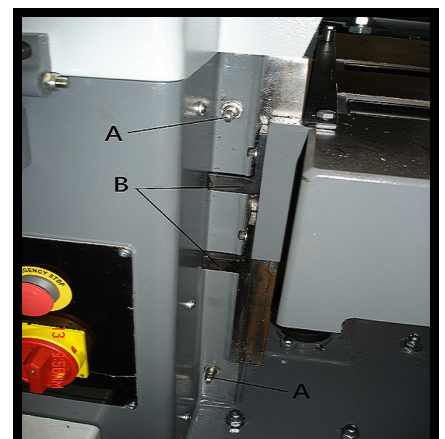

Fig. 7
Limitation for work table raising or lowering, there is a limit switch (A) for each direction of table movement. The power table switches off to prevent damage in maximum high and low position as show in Fig. 7. (B) is a limit block, micro-switch block.